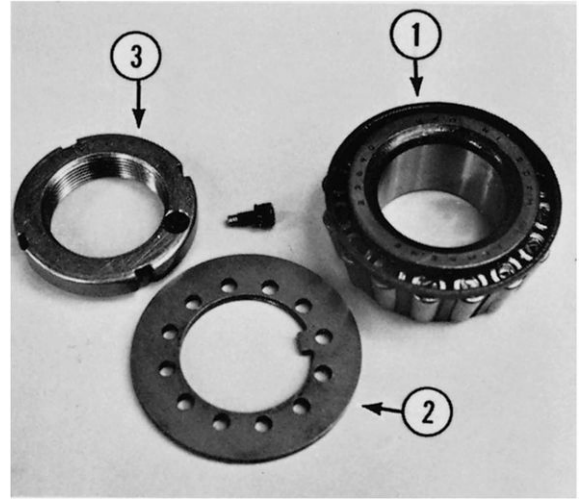

FIG. 10-20
C. Install the bearing (1, Fig. 10-20), tongue washer (2, Fig. 10-20) and the locknut (3, Fig. 10-20).